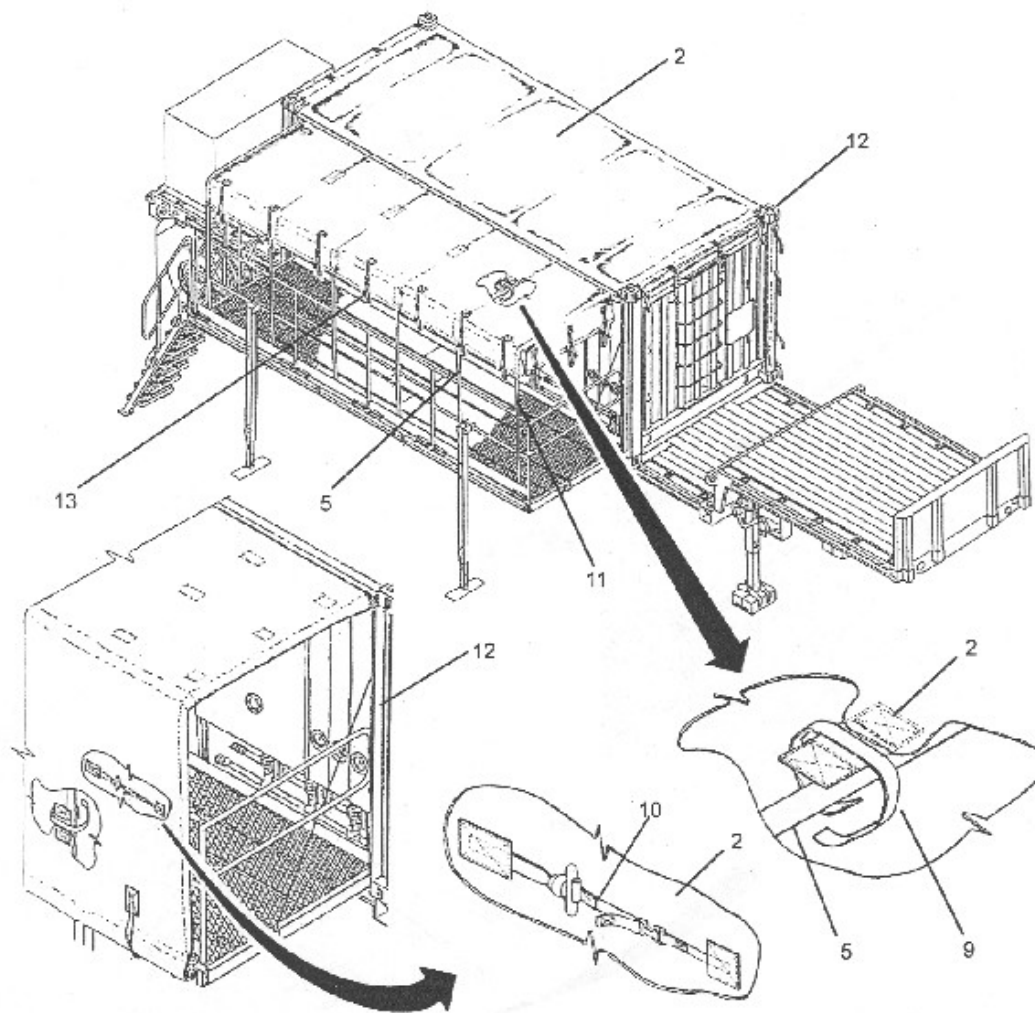

Figure 3-58
- (1) Remove light from underside of tarp as follows:
- (2) Remove bungee cords securing tarp to underside of platform and stow bungee cords in toolbox.
- (3) Unfasten straps securing back half of tarp to inside awning supports and stow straps in toolbox.
- (4) Unfasten straps securing back half of tarp to outside awning supports.
- (5) Flip back half of tarp over top of ISO frame.
- (6) Unfasten straps securing front half of tarp to inside awning supports and stow straps in toolbox.
- (7) Flip front half of tarp on top of ISO frame. (See Figure 3-58)